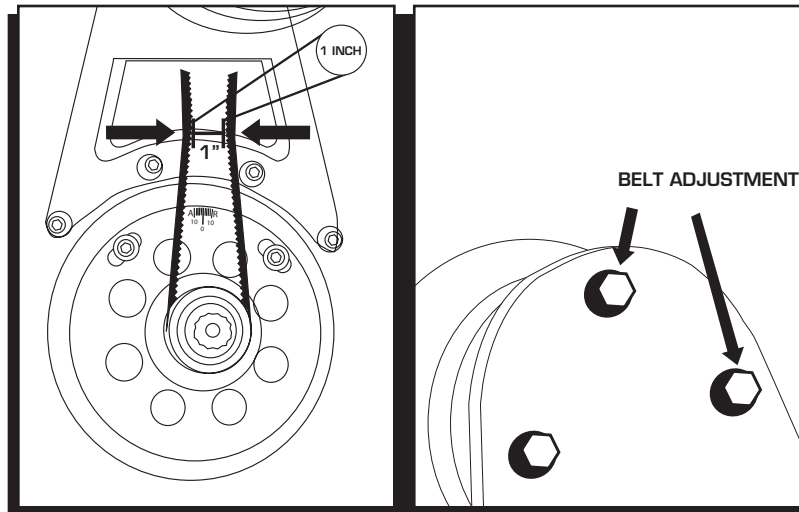

Figure 3 Adjusting the Belt Tension.
4. With the rotor tip aligned, adjust the tension of the distributor drive belt. This is adjusted with the three bolts on the back of the housing (Figure 3). Squeeze the belt in the middle until there is about one inch between the belt with light pressure.